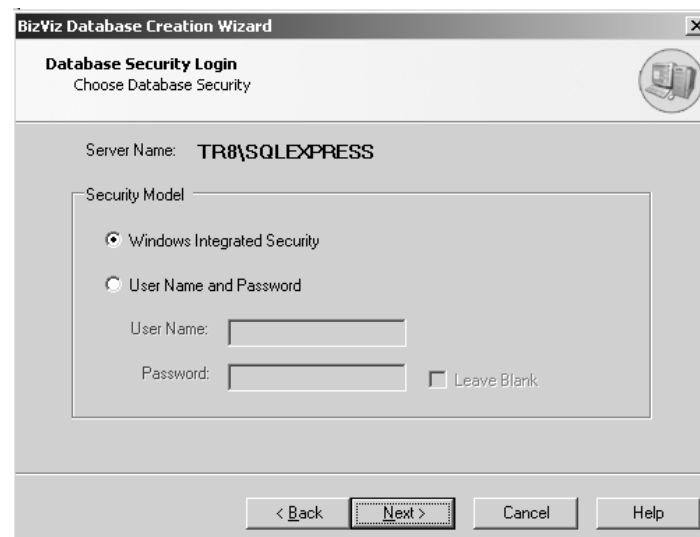

Figure L2.4 - Logging into SQL Server
4. Select the proper authentication mode to log into your SQL Server, as shown in Figure L2.4 and click on the **Next** button to continue.